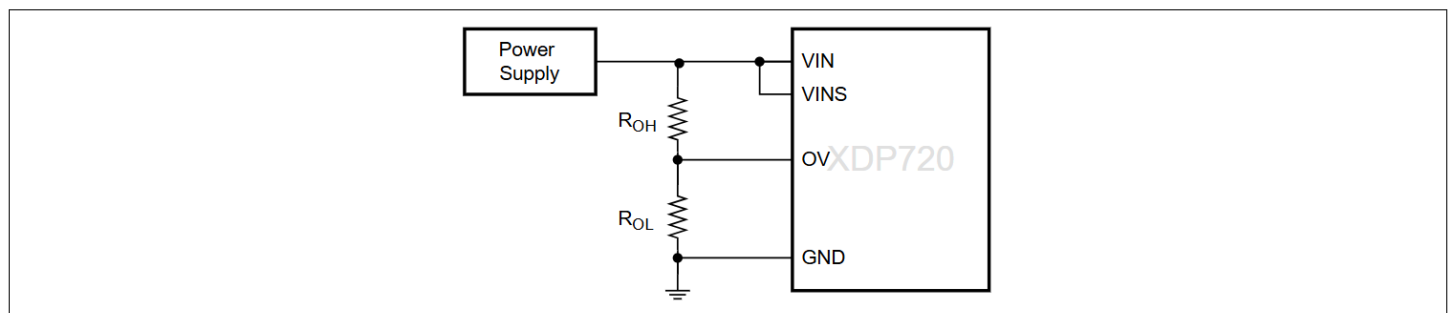

Figure 7 Input overvoltage protection
Similar to input undervoltage, the XDP720 has input overvoltage protection for monitoring the maximum input voltage. By default, the input overvoltage is configured to sense the voltage at the VINS pin using a digital comparator. When the VINS voltage rises to/above the digitally programmed limit, the input overvoltage protection (OV) is triggered. If needed, the device can be configured to use an analog comparator at the OV pin for faster response. When the OV pin voltage rises to/above V_{OV_UTH} , the input overvoltage protection is triggered. The equation below can be used to calculate the values of the resistor divider network at the OV pin as shown in Figure 7. At a given time, the input overvoltage can be configured to use either the digital comparator or the analog comparator.